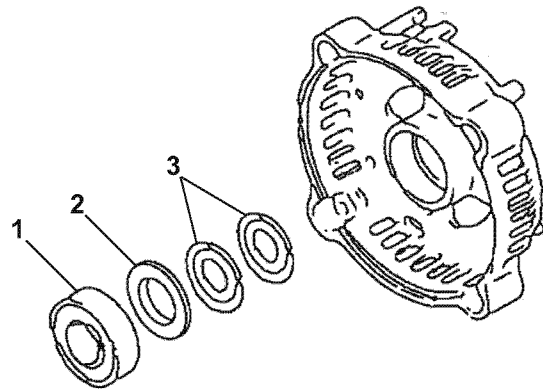

Figure 11-11
11. If it is necessary to replace the bearing (Figure 11-11, (1)) in the rear frame housing, use a puller to remove. Discard the bearing. Remove the bearing cover (Figure 11-11, (2)) and two thrust washers (Figure 11-11, (3)).